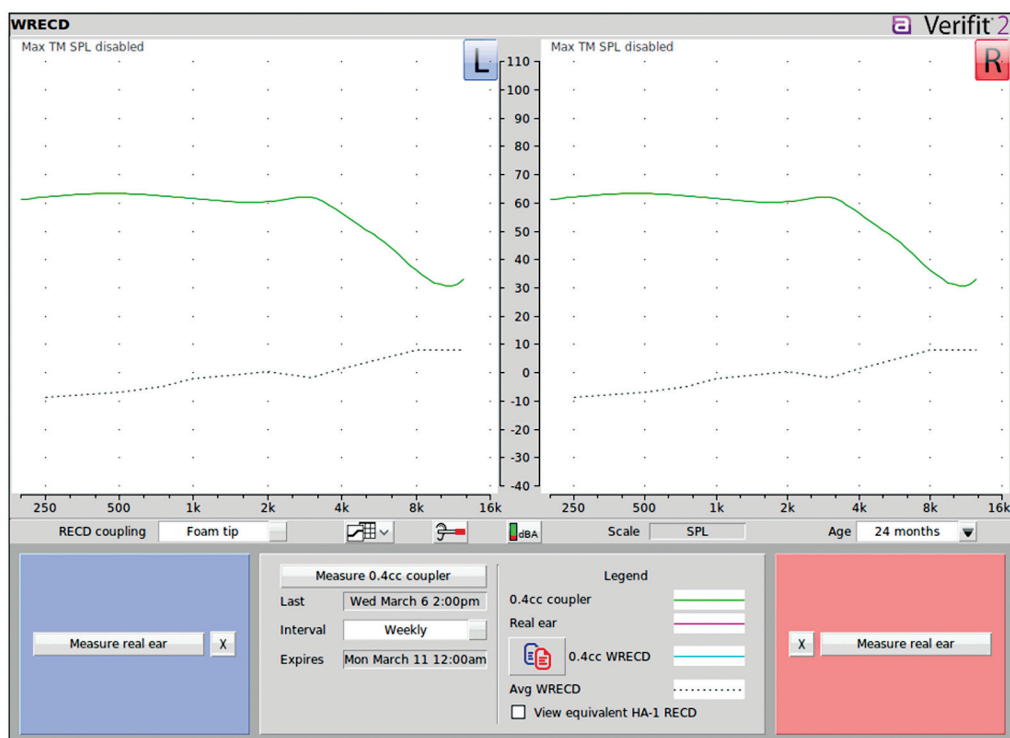

Figure 6 WRECD measurement screen.
coupler when attached to the WRECD transducer (see Figure 6) since we would not expect this to change. This is required each week to make sure that your ability to measure the coupler reliably has not been impacted (e.g., has anything damaged the coupler microphone, has the WRECD cord been damaged which could impact the delivery of sound).
- Your result will look like the measurement displayed in Figure 6 since couplers are standard.